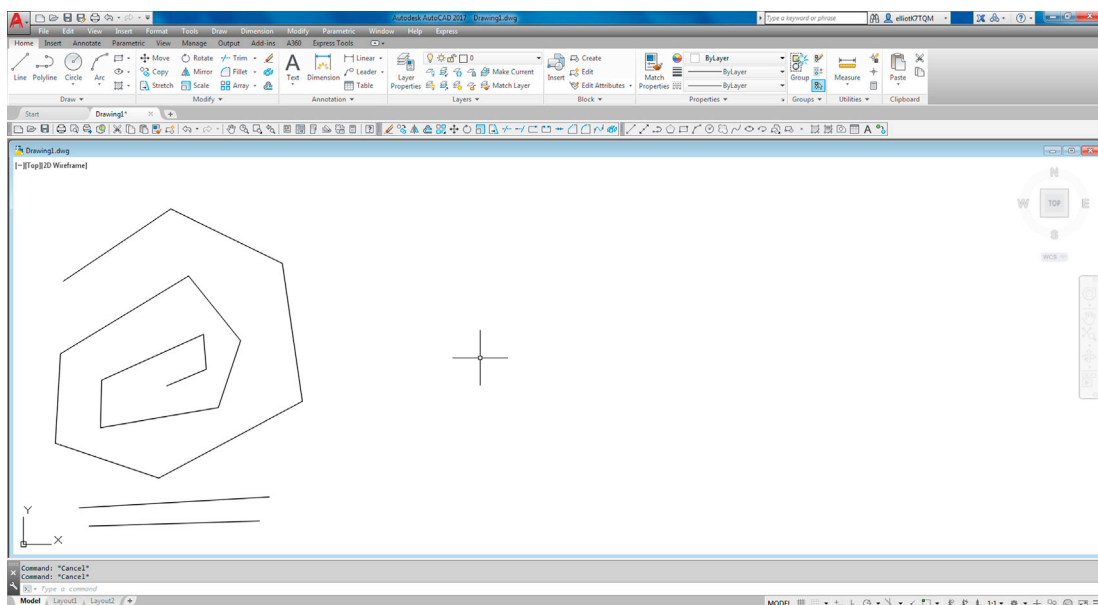

FIGURE 1.12 Lines drawn.
You can access all the toolbars at any time by simply selecting Tools→Toolbars→AutoCAD from the cascading menus. When you do that, a menu appears (Fig. 1.8), and you can simply check off the ones you want or do not want. You also can access the same menu by right-clicking on any of the toolbars themselves. Once you have a few up, you typically just dock them on top or off to the side. It is highly encouraged to bring up the *Standard*, *Draw*, and *Modify* toolbars for learning purposes. We do not require any other ones for now but will just bring them up as the need arises. Starting with Fig. 1.12, you will see those three toolbars docked neatly at the top of the drawing area.
Step 3. Move the mouse elsewhere on the screen and left-click again. You can repeat Step 2 as many times as you wish. When you are done, click Enter or Esc. You should have a bunch of lines on your screen, either separate or connected together, as shown in Fig. 1.12.